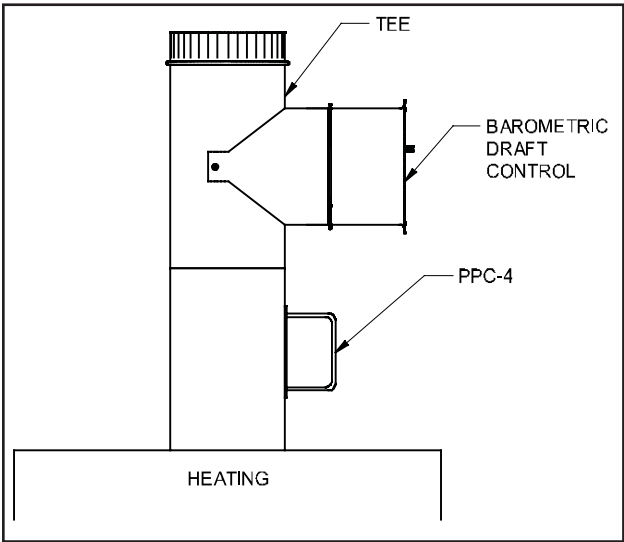

Figure 6
Pierce a 1/4" diameter hole into the vent pipe and mount the POST PURGE SWITCH on the vent pipe between the barometric draft control and the appliance using the two (2) sheet metal screws. (See Figure 6)